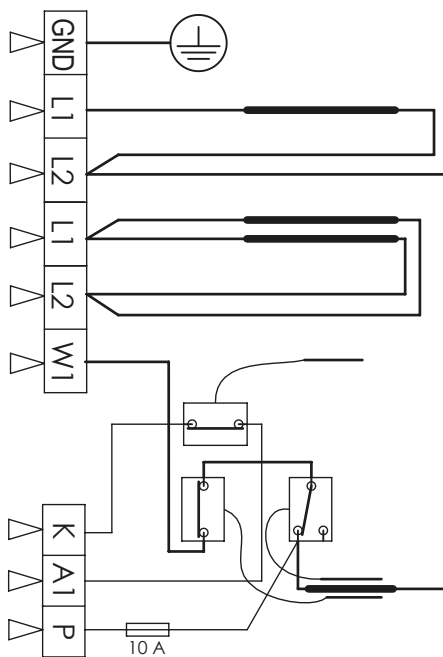

Figure 8. *Electrical connections of heater*
2. See applicable wiring diagram for heater model (figure 8, see control unit manual for detailed instructions how to connect the heater and the control unit). Heater must be permanently installed by using seal tight conduit between the heater and the wall of the sauna room (pigtales or plugs are not allowed in the sauna room). Wiring must be done by a licensed electrician, who must follow wiring diagram provided and adhere to local codes. Use proper AWG rated wire size and use copper wire suitable for 194 °F (90 °C) within sauna walls. Use grounding terminals provided in sauna heater and control unit to properly ground the equipment as per NEC and local codes.